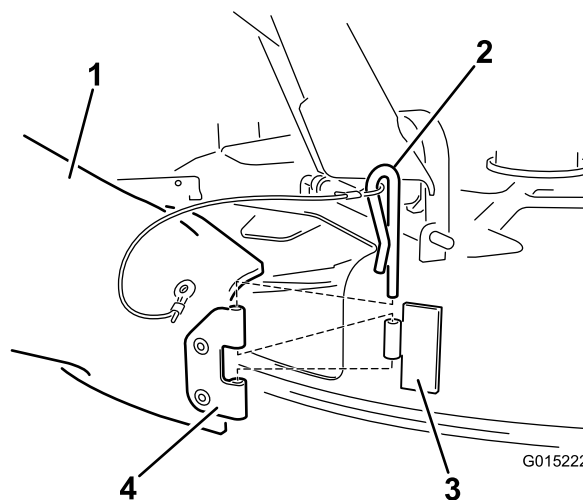

Figure 22
4. Locate the chute in loose parts. Align the holes in the hinge on the chute with the hinge on the deck (Figure 22). Secure the chute to the deck using the hairpin on the lanyard connected to the chute.